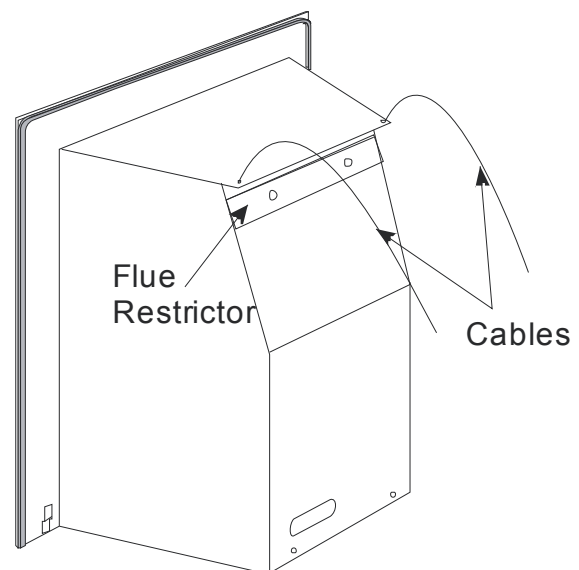

Figure 56
4. Unpack the cable fixing kit and feed the cable ends through the top holes on the sides of the flue outlet (see **Figure 56**).